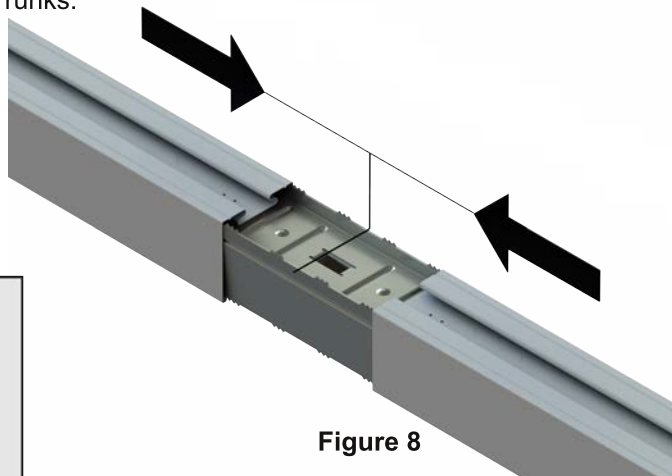
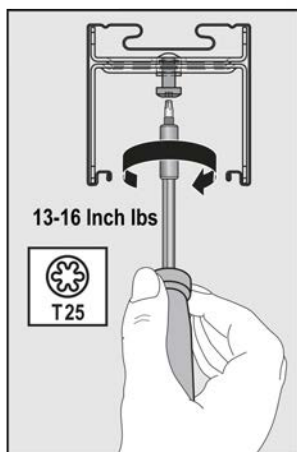

Figure 8
Figure 9
■ Coupling Pieces are installed between the Trunks to connect them and form continuous Rows. The ends of the Trunks need to go together at the center of the Coupling Piece as shown in Figure 8. Use a T25 Torx screw driver to tighten the screws on the Coupling Pieces. Do not over tighten! See Figure 9. Over tightening can distort the Trunks.